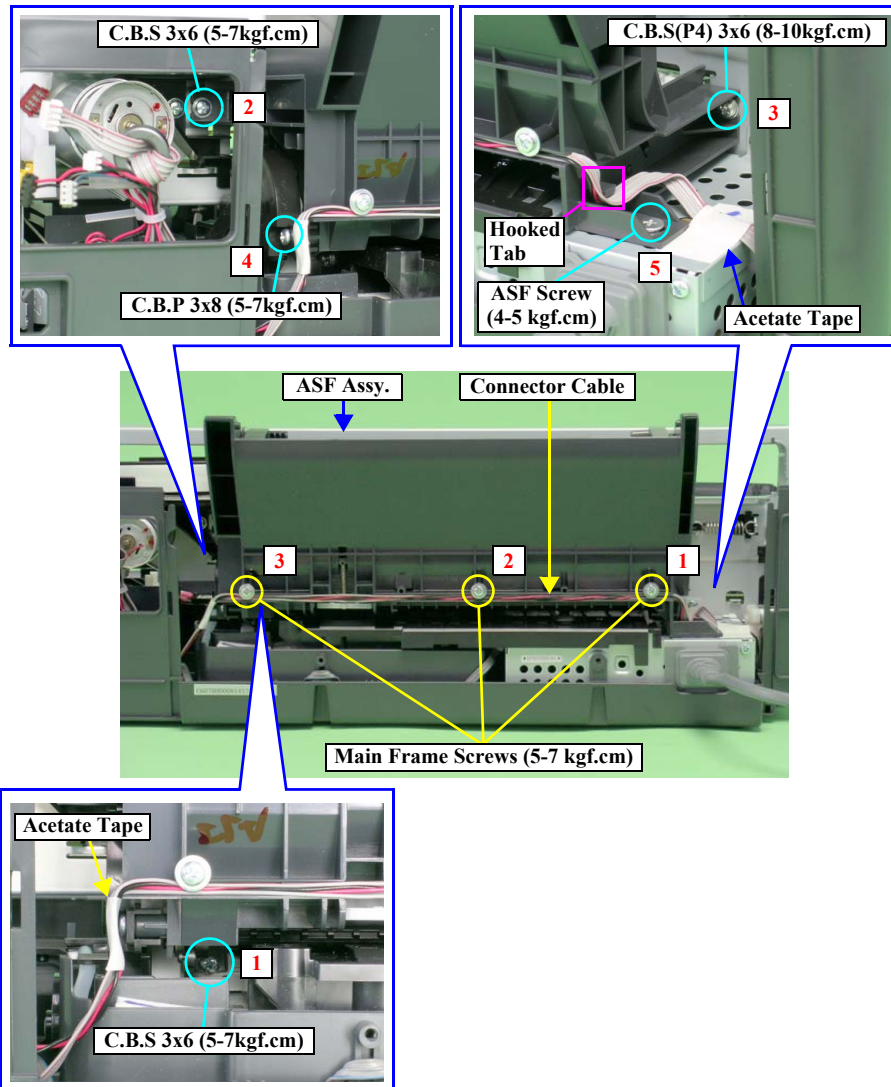

Figure 2-31. Removing the ASF Assy.
- Hold down the left upper side of the ASF Assy. (when viewed from the rear of the printer) while screwing the assy. in the order shown in Figure 2-31. Do not hold down the center of the ASF Assy.
- Tighten the screws in the order shown in Figure 2-31, so as not to trap the PF Motor and PG Motor connector cables under the ASF Assy.